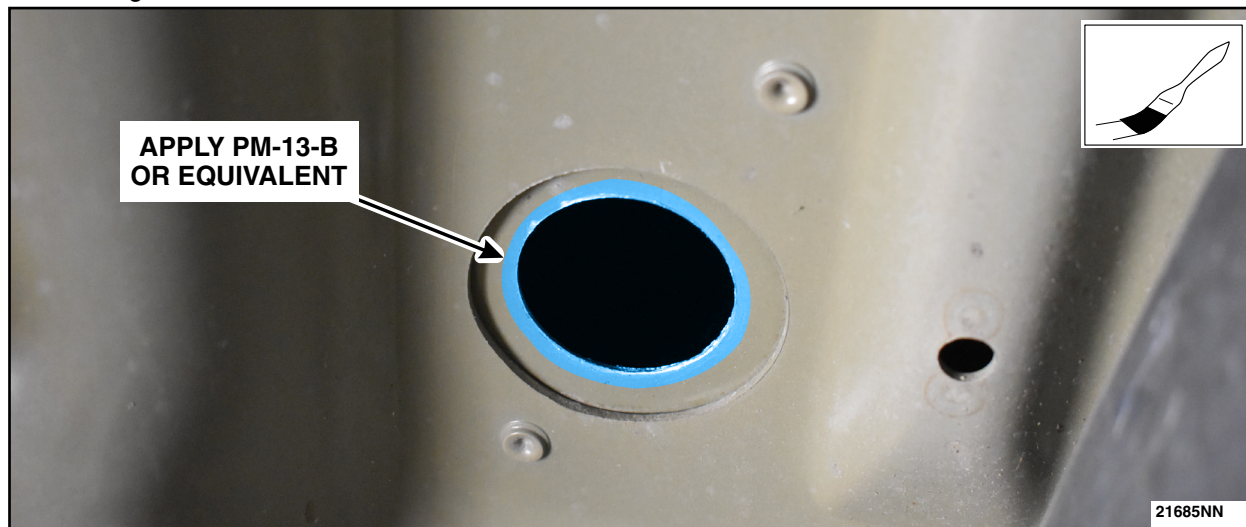

FIGURE 41
45. Following the directions on the can, liberally apply some PM-13-B Anti Corrosion Coating or equivalent to the edge and surface around the hole drilled into the floorboard. Allow to fully dry. See Figure 41.